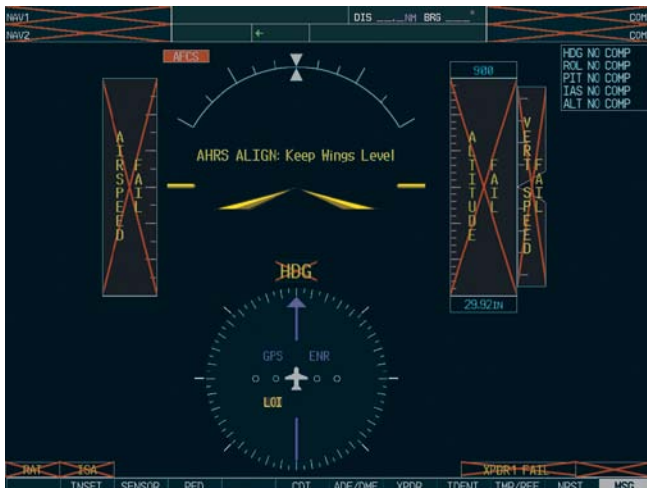

Figure 1-7 PFD Initialization
During system initialization, test annunciations are displayed, as shown in Figure 1-7. All system annunciations should disappear typically within one (1) minute of power-up. Upon power-up, key annunciator lights also become momentarily illuminated on the audio panels, the control units and the display bezels.